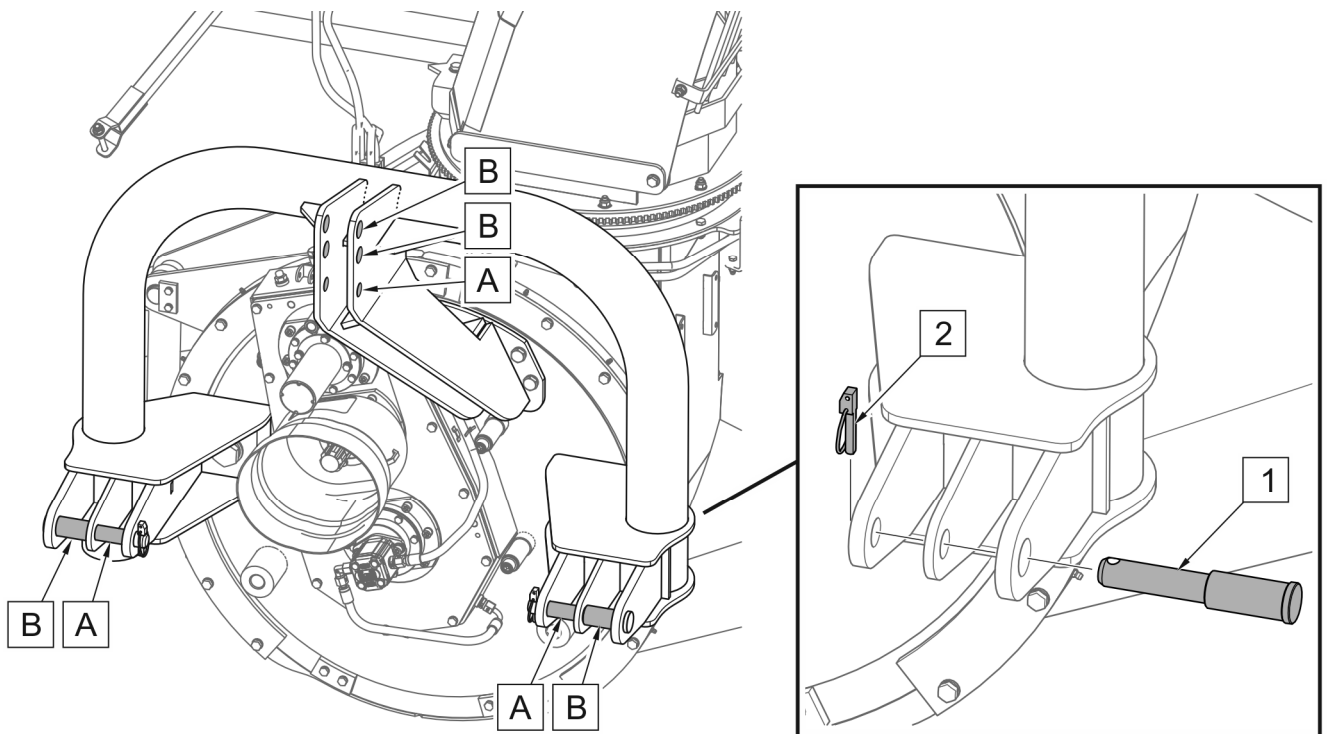

FIGURE 4.1 Attachment points of three-point linkage cat. II and III according to ISO
- Remove the lower pins (1) secured with cotter pins (2) (FIGURE 4.1),
- connect lower points of the machine linkage with the three-point linkage links by means of pins (1) and secure with cotter pins (2),